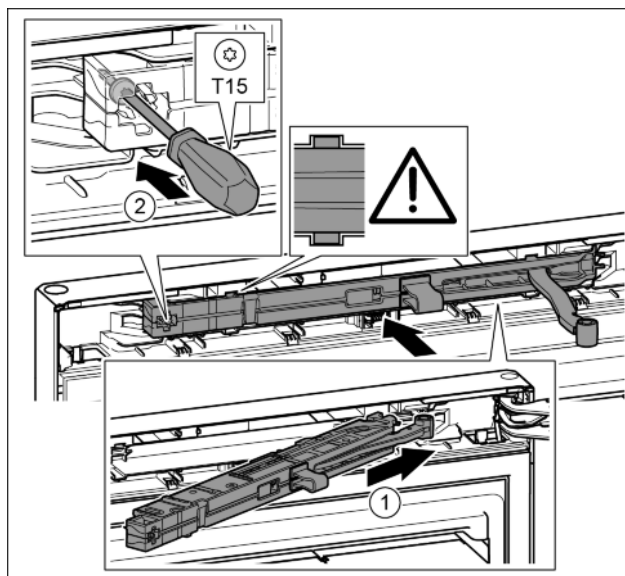

Fig. 20
- Slide the soft stop mechanism on the bearing bracket side at an angle into the slot as far as the limit stop. Fig. 20 (1)
- Tighten the screw with the T15 screwdriver. Fig. 20 (2)